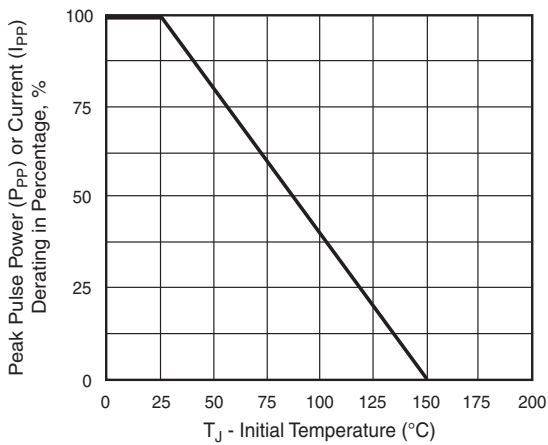
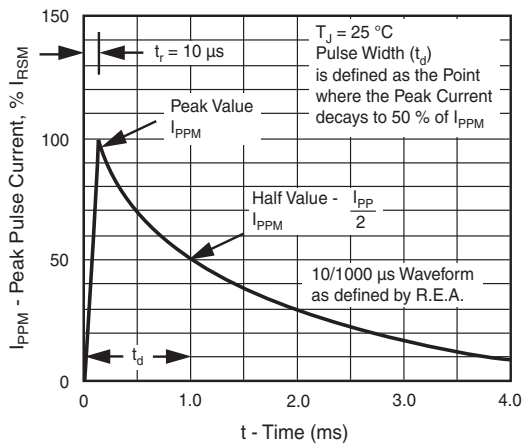

Fig. 2 - Pulse Power or Current vs. Initial Junction Temperature
Fig. 3 - Pulse Waveform
Note 1. Non-repetitive current pulse, per Fig. 3 and derated above  $T_A=25^\circ\text{C}$  per Fig. 2
2. Surge current waveform per Fig. 3 and derated per Fig. 2